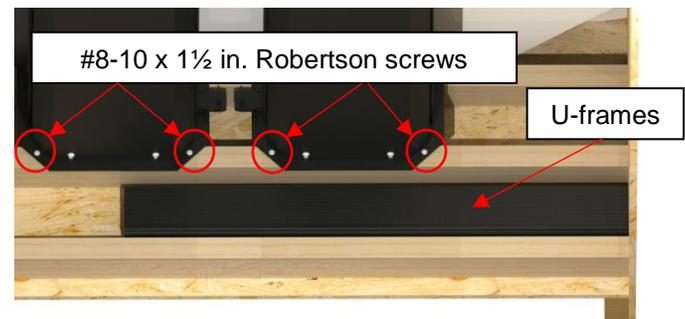

Figure 35
9) Remove both U-frames at the bottom of the crate and place them in a safe place. (Figure 35)
10) Unscrew the bottom #8-10 x 1½ in. Robertson screws holding the posts assemblies to the crate. There are two bottom screws per post as shown in Figure 35.